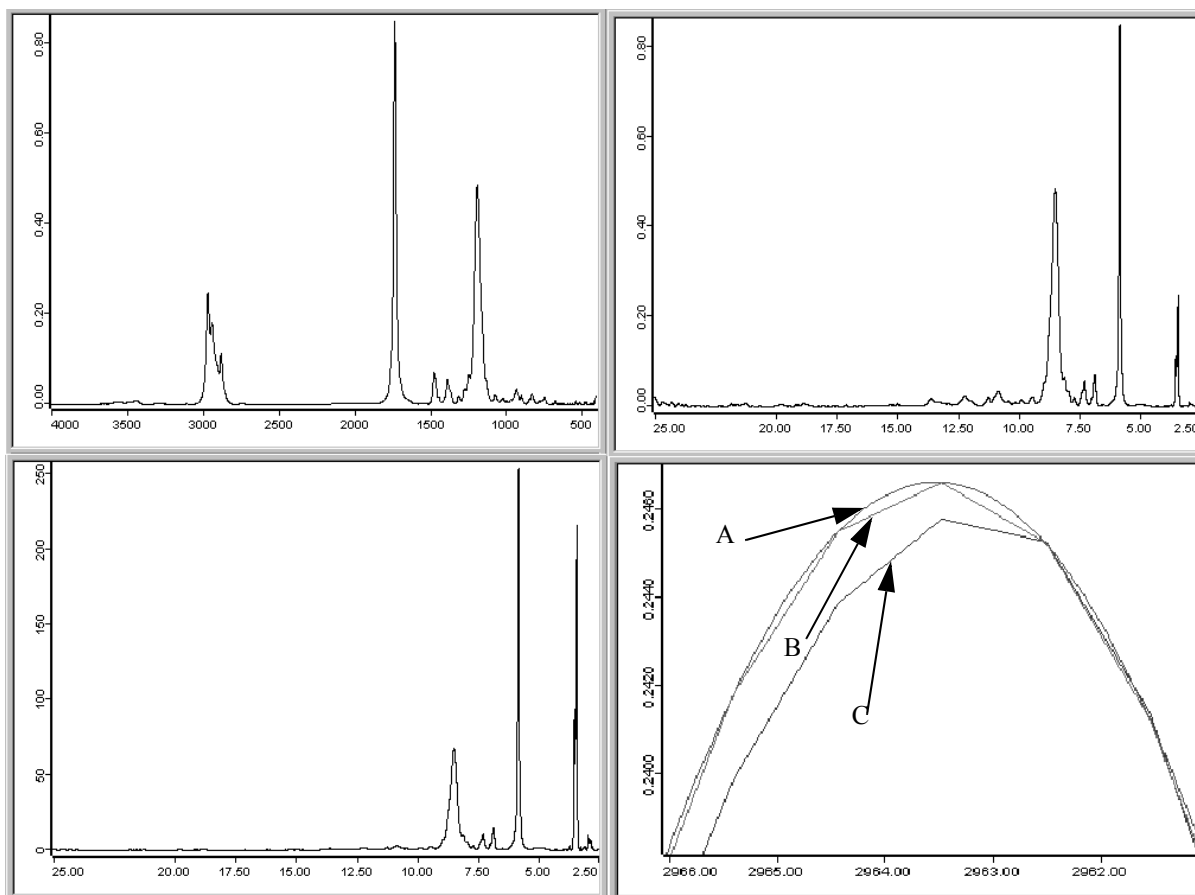

Figure 178: Original data and converted spectra after abscissa conversion
The upper left spectrum in figure 178 shows the original data scaled in wavenumbers. On the right it has been converted to wavelengths, with the intensities remaining unchanged. In the lower left spectrum the intensities have been converted without changing the integrals. The lower right spectrum shows the original spectrum (B) which has been converted from wavenumbers to wavelengths and reconverted for comparison. Spectrum (A) uses an MCF of 1, spectrum (C) an MCF of 15. The number of data points in (A) is about ten times higher than in (C), and comes very close to the original data.